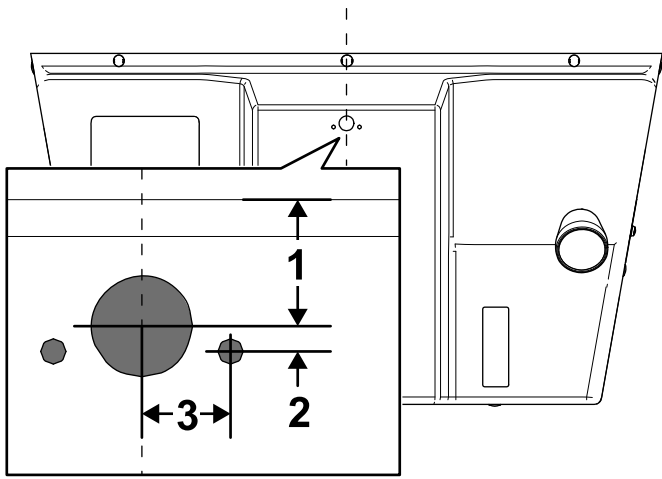
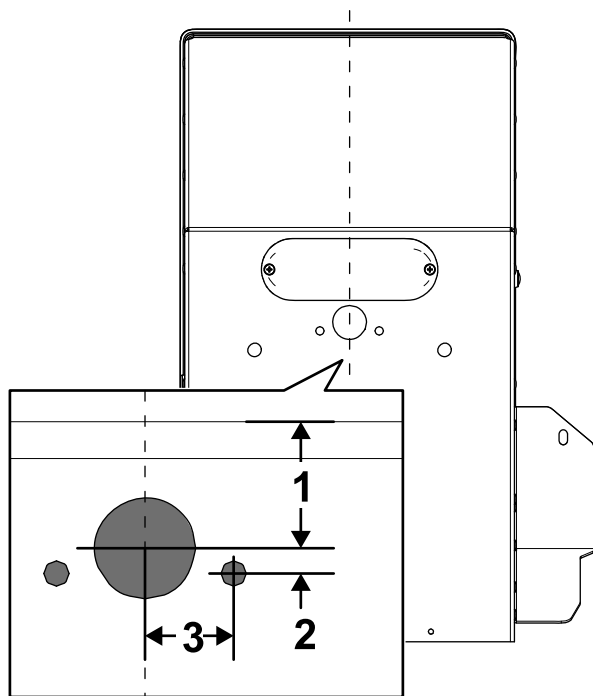

Figure 3
Figure 4
3. Mark and drill a hole (1 inch) centered on the rear cover using the measurements in Figure 3 and Figure 4.
4. Mark and drill 2 holes (1/4 inch) in the rear cover using the measurements in Figure 3 and Figure 4.